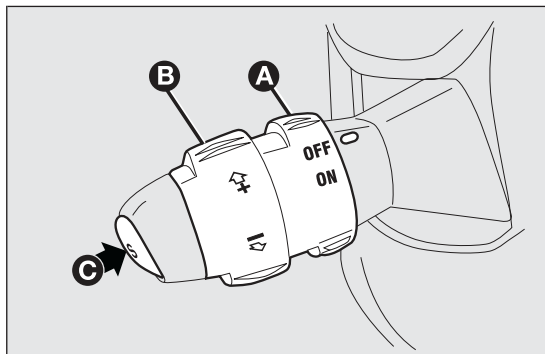

fig. 56
Turn the ring nut A fig. 56 to the ON position.
- ☐ turn ring nut A fig. 56 to ON and press the accelerator pedal so that the car reaches the desired speed;
- ☐ press button C fig. 56.
- ☐ by temporarily turning ring nut B fig. 56 to (+).
- ☐ by keeping ring nut B fig. 56 turned to (–) until the new speed is reached; it will then be memorised automatically.
Turn the ring nut A fig. 56 to OFF or turn the ignition key to STOP. The device is automatically turned off in one of the following cases:
If the device is faulty, turn ring nut A fig. 56 to OFF, check the condition of the protective fuse and contact a Fiat Dealership.